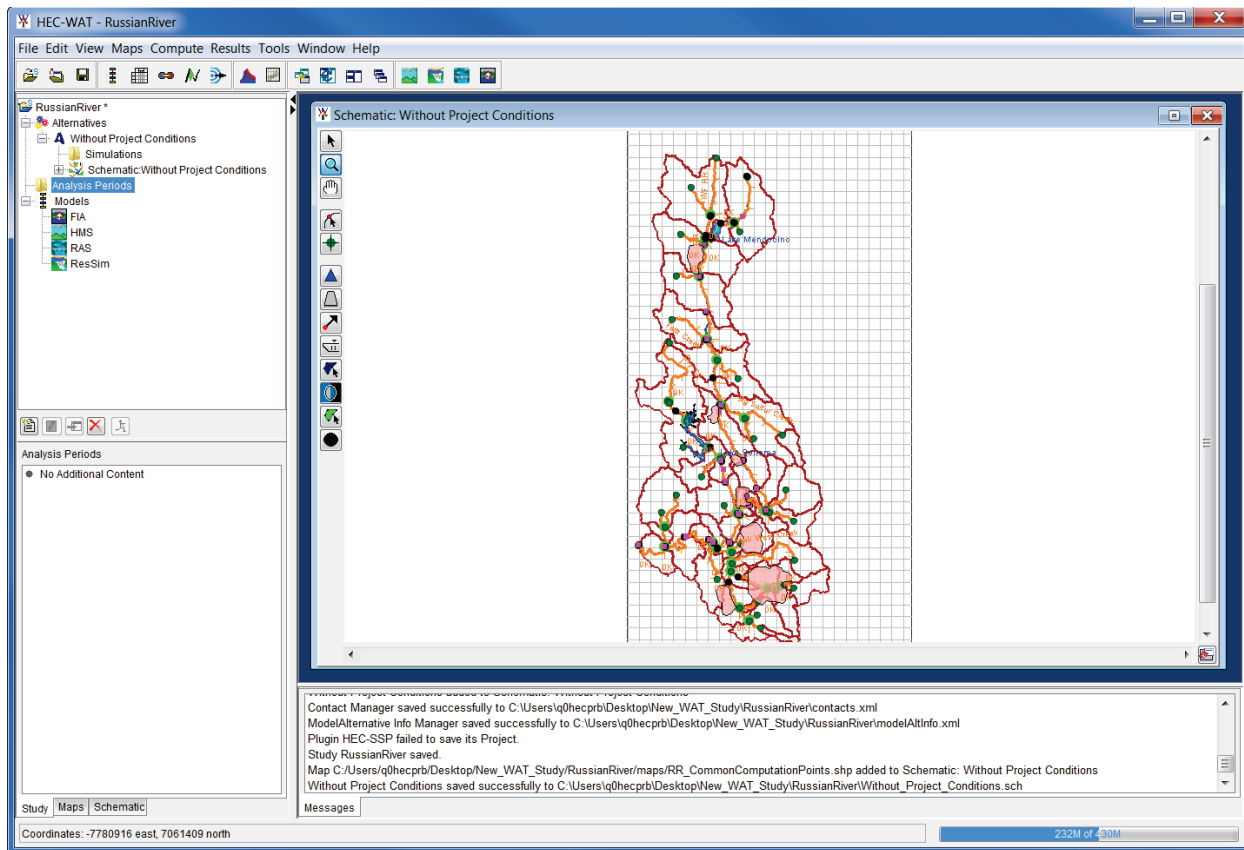
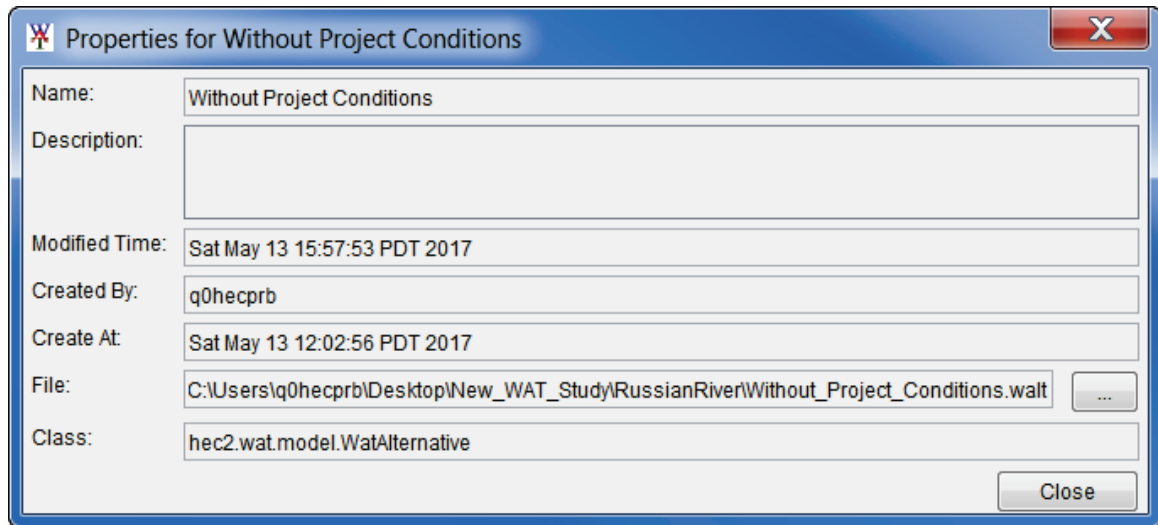
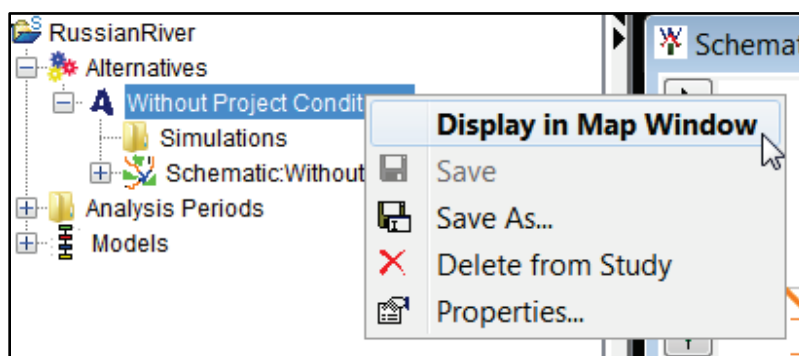

Figure 10.3 HEC-WAT Main Window
Figure 10.13 Properties for *AlternativeName* Dialog Box
Figure 10.15 Study Tree – Individual Alternative Shortcut Menu
To access the **Alternative and Simulation Manager**, from the HEC-WAT main window (Figure 10.3), from the **WAT Tools** toolbar, click . Alternatively, from the **Edit** menu, click **Alternative and Simulation Manager**. From either method the **Alternative and Simulation Manager** will open (Figure 10.2).
1. From the individual alternative shortcut menu (Figure 10.11), click **Properties**. The **Properties for AlternativeName** dialog box will open (Figure 10.13).
1. From the HEC-WAT main window (Figure 10.3), from the **Study Tree**, right-click on the **Alternatives** folder. From the shortcut menu click **New**, the **Create New Alternative** dialog box will open (Figure 10.4).
When an alternative has been created, from the **Study Tree**, under the **Alternatives** folder, the alternatives defined for the HEC-WAT study are displayed. By right-clicking on an alternative, a shortcut menu (Figure 10.15) becomes available. From the shortcut menu the user can perform various functions on individual alternatives.
1. From the HEC-WAT main window (Figure 10.3), from the **Study Tree**, under the **Alternatives** node, right-click an individual alternative. From the individual alternative shortcut menu (Figure 10.15), click **Display in Map Window**.
To save an alternative, from the individual alternative shortcut menu (Figure 10.15), click **Save**. Any changes that have occurred to the selected alternative will be saved by HEC-WAT.
1. From the individual alternative shortcut menu (Figure 10.15), click **Save As**. The **Save Alternative As** dialog box will open (Figure 10.12). The information displayed in the dialog box represents the alternative has been selected for copying.
4. The alternative name will now appear on the **Study Tree**, under the **Alternatives** folder (Figure 10.3).
To delete an alternative, from the individual alternative shortcut menu (Figure 10.15), click **Delete From Study**. A **Confirm Manager Delete** warning message will appear asking the user does the user really want to delete the selected alternative. Click **Yes**, the warning message will close. The alternative will no longer appear on the **Study Tree** under the **Alternatives** folder (Figure 10.3).
The properties of an alternative include the name, description, when the alternative was modified, who created the alternative, when the alternative was created, and the file that contains the alternative data. To view the properties of an individual alternative, from the individual alternative shortcut menu (Figure 10.15), click **Properties**. The **Properties for *AlternativeName*** dialog box will open (Figure 10.13). See Section 10.3.3 for further details about alternative properties.